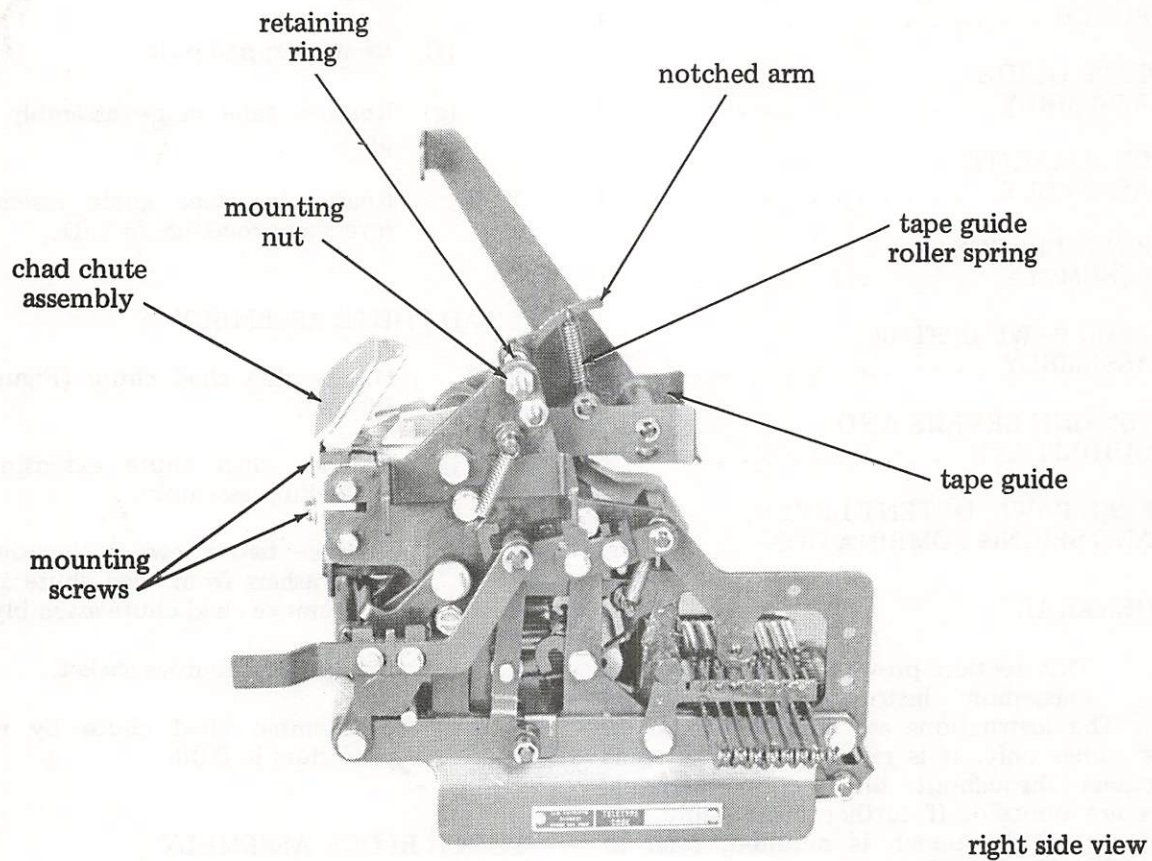

Figure 1 - Tape Guide and Chad Chute Assemblies
2.01 Disassemble tape guide assembly (Figure 1) as follows:
2.03 Disassemble chad chute (Figure 1) as follows: